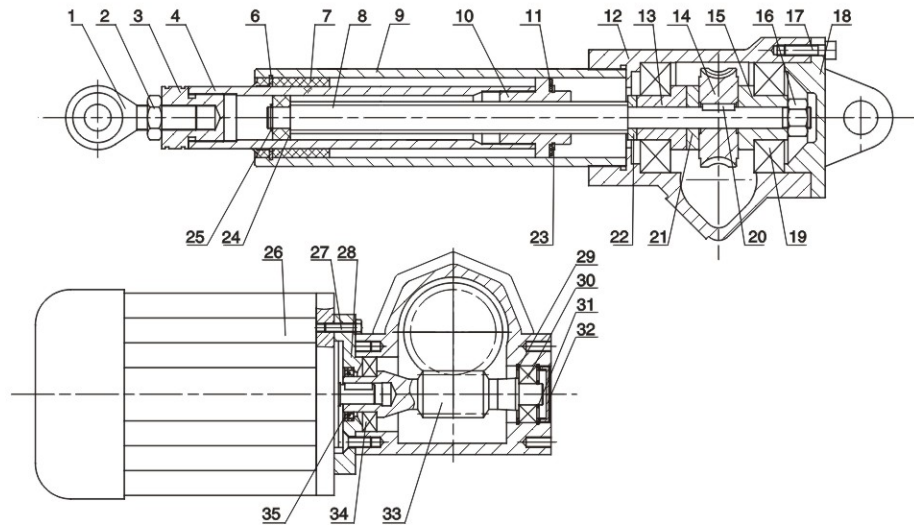

Fig.3.1 Assembling and disassembling of actuator
3.2 Assembly and Disassembly . Fig.3.1 and Table3.2